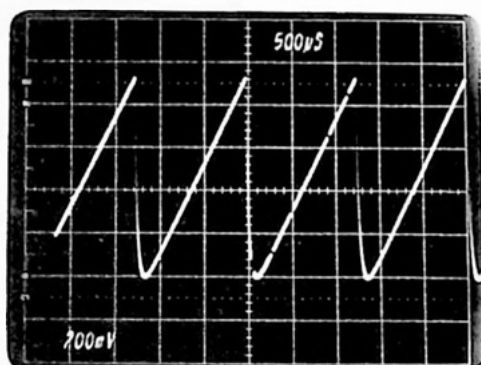

Figure 6-11 — A ramp (sawtooth) waveform generated by the internal DAC using an assembly language program.
Step 16 — Observe the oscilloscope display. You should observe the ramp (sawtooth) waveform pictured in Fig. 6-11 when the oscilloscope is adjusted properly. Measure the output waveform amplitude